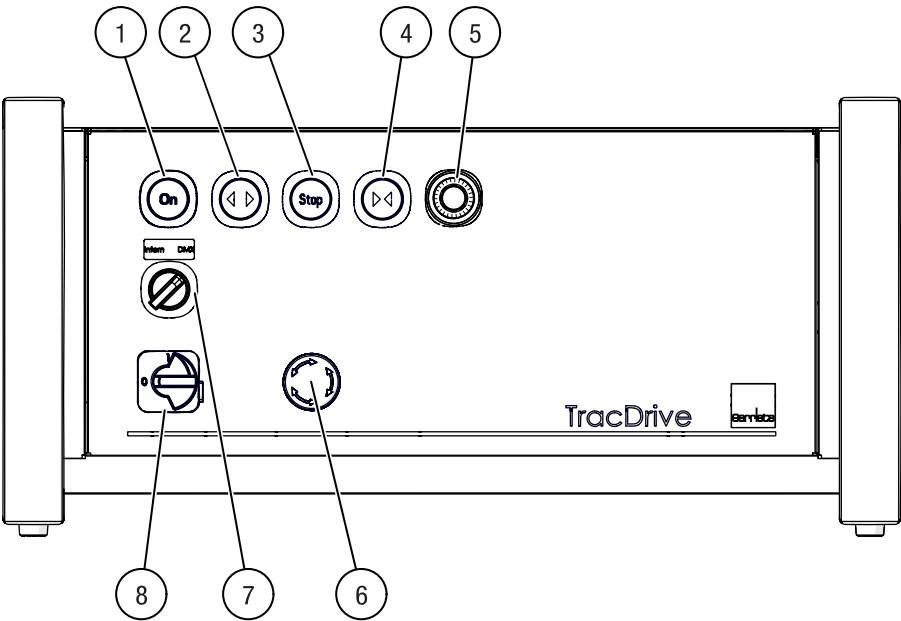

Fig. 109: Front – G-FRAME 54 control unit
2. Turn the main circuit breaker to the 1 position to switch on the control unit (8/ Fig. 109).
3. Check whether the 'ON 'light (1/ Fig. 109) illuminates.
4. Set the 'Internal/DMX' switch (7/ Fig. 109) to the desired input source:
6. Press the 'Open' button (**2**/Fig. 109) to open the curtain or move the scenery material.
7. Press the 'STOP' button (**3**/Fig. 109) to stop the travel operation.
8. Press the 'Close' button (**4**/Fig. 109) to close the curtain or move the scenery material in the opposite direction.
10. When using local control with variable speed, adjust the desired speed with the potentiometer (**5**/Fig. 109).